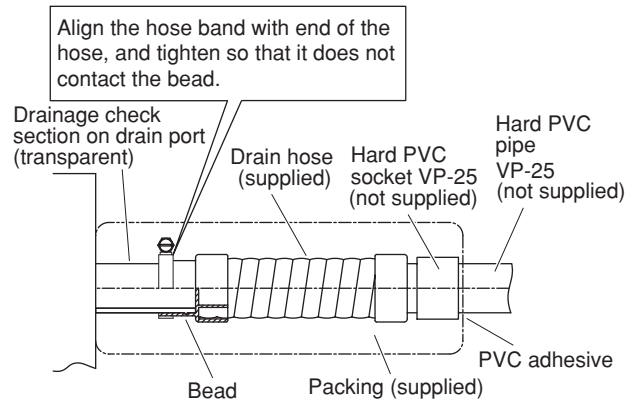

Fig. 3-10a
(1) Prepare standard hard PVC pipe (O.D. 32 mm) for the drain and use the supplied drain hose and hose band to prevent water leaks. The PVC pipe must be purchased separately. The unit's transparent drain port allows you to check drainage. (Fig. 3-10a)
- Tighten the hose clamps so their locking nuts face upward. (Fig. 3-10a)